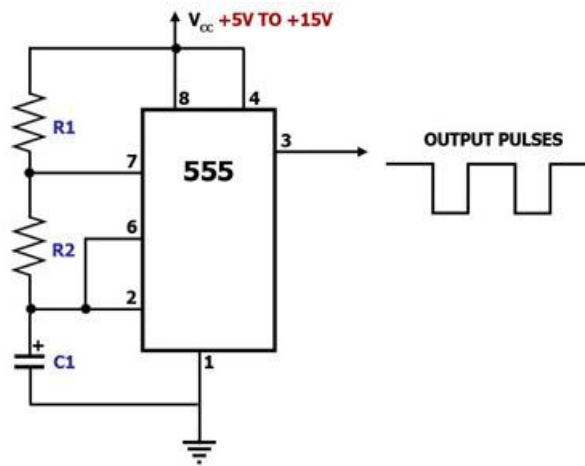

Figure 3: Square Wave Oscillator
1. Connect the relaxation oscillator circuit shown in Figure 3 with  $R_1 = 1k\Omega$ ,  $R_2 = 1k\Omega$  and  $C = 0.1\mu F$ .